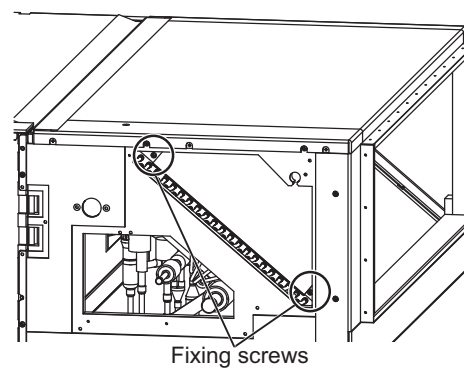

Fig.5
- (6) Remove the heat exchanger. (fixing screws: two) (Fig.5)